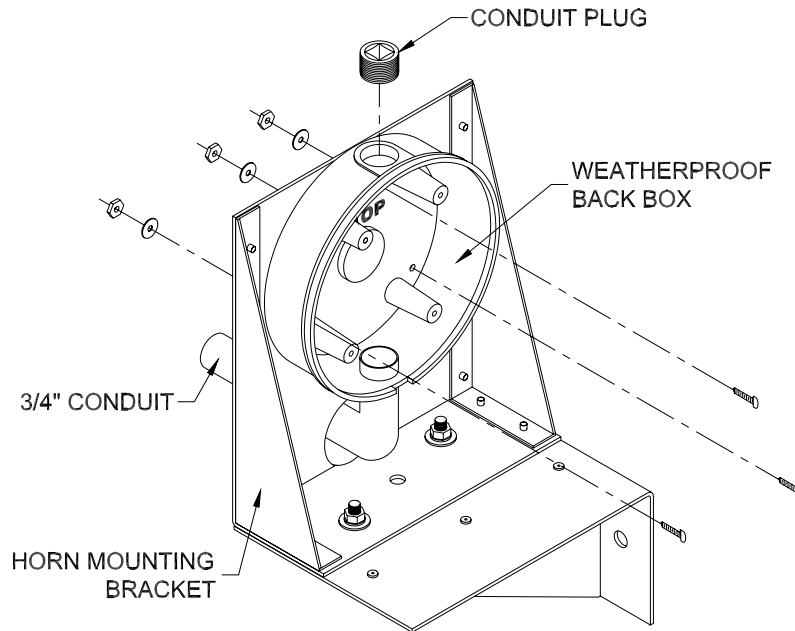

Figure 11 Back Box Mounting Points
10. Attach the weatherproof back box to the mounting bracket using the provided 8-32 x 1/2" Phillips head machine screws, #8 split-lock washers, and 8-32 hex nuts as shown in figure 11.